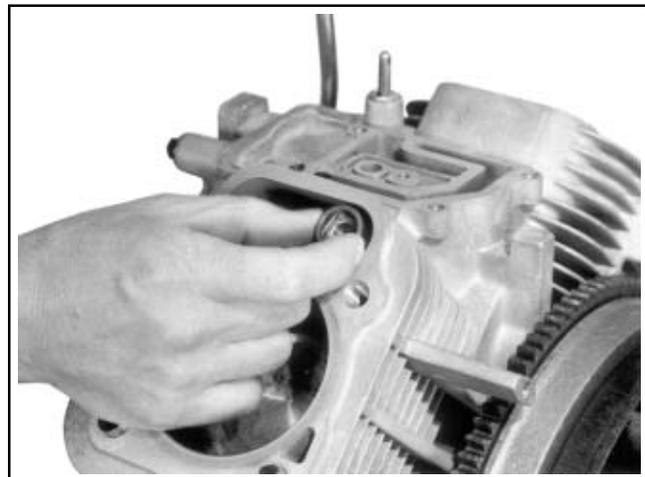

Figure 11-35. Installing Hydraulic Lifters.
3. Note the mark or tag identifying the hydraulic lifters as either intake or exhaust and cylinder 1 or cylinder 2. Install the hydraulic lifters into their appropriate location in the crankcase. **Do not** use a magnet. See Figure 11-35.